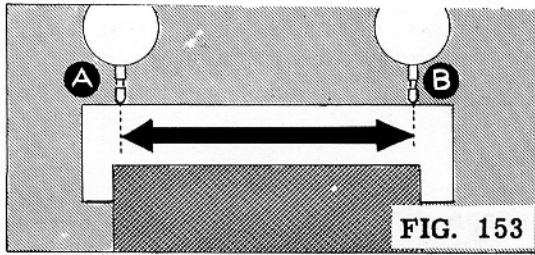

FIG. 153
15. Set the machine so that the length of the stroke is about one inch shorter than the length of the parallels (Fig. 153).
16. Position the ram so that the contact point travels within one-half inch of both ends of the parallels (Fig. 153).